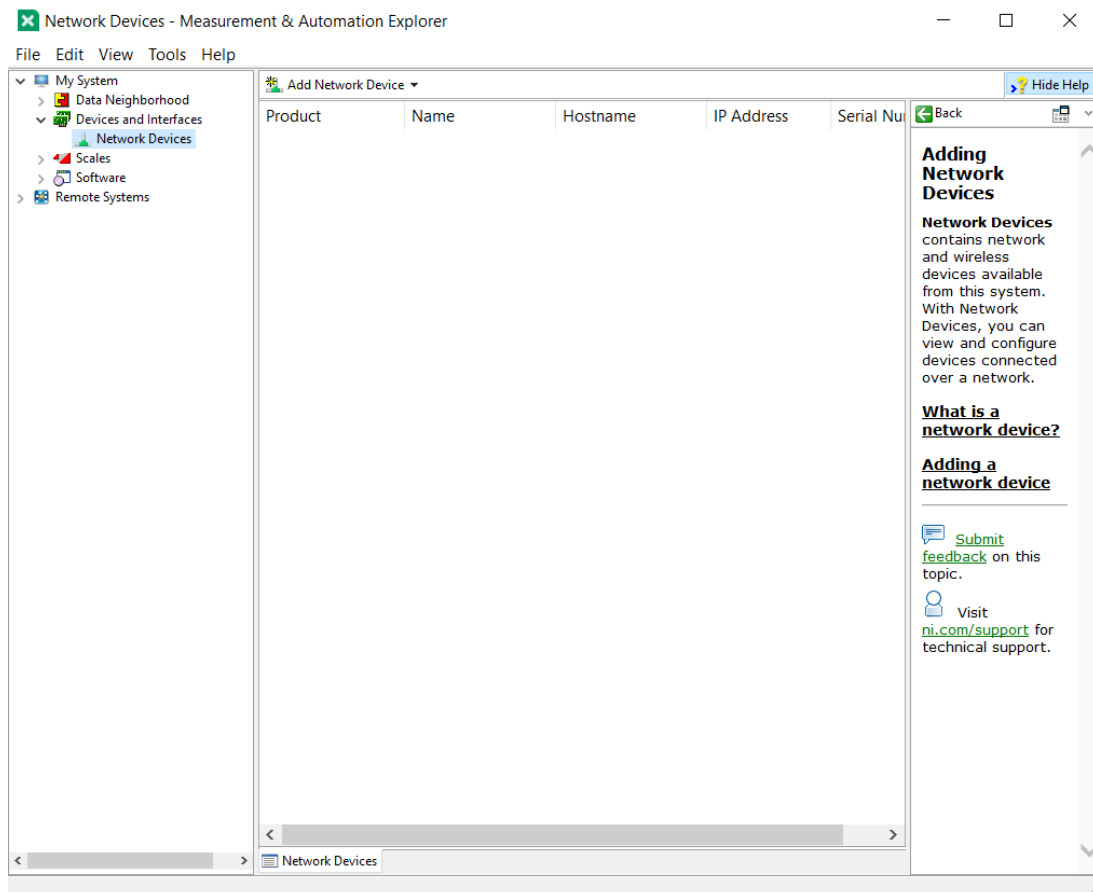

Figure 2 - Interface of the 'Network Devices' Tab
- 2) Click **My System/Devices and Interfaces/Network Devices** on the left-hand side and you should see the panel in figure 2.